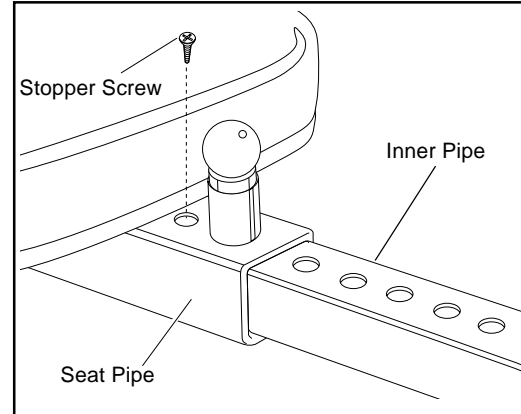

Fig. 1
3. Align the hole on the top surface of the seat pipe with the screw hole, and apply the stopper screw. (Fig. 1)